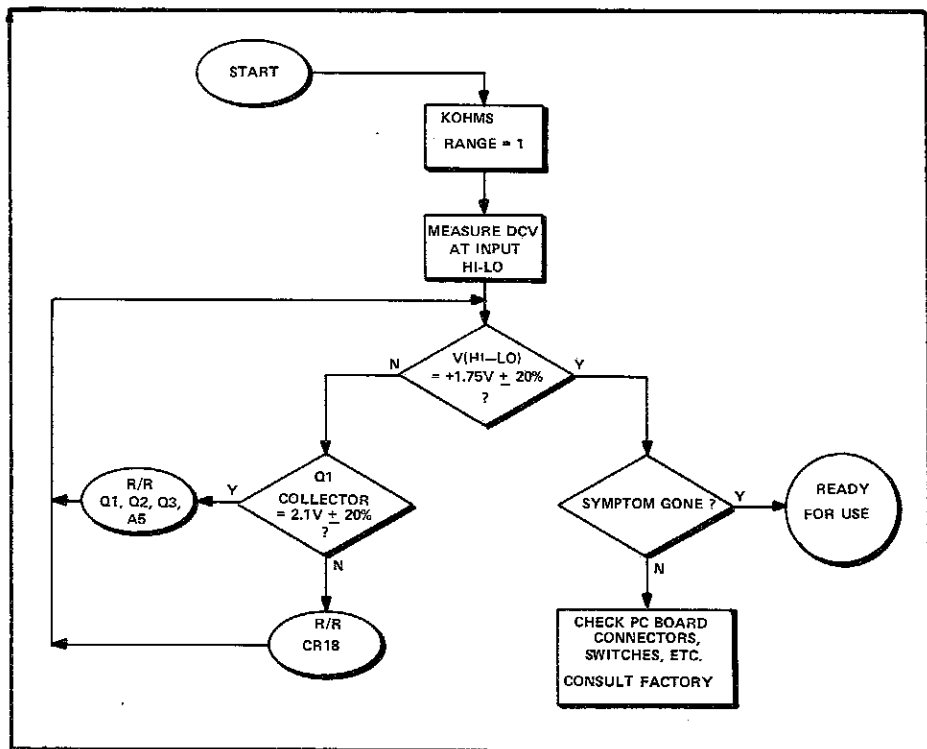

Fig 5-9 $K\Omega$ Signal Conditioning Tests
5.9.3 Kilohms Signal Conditioning (Figure 5-9)